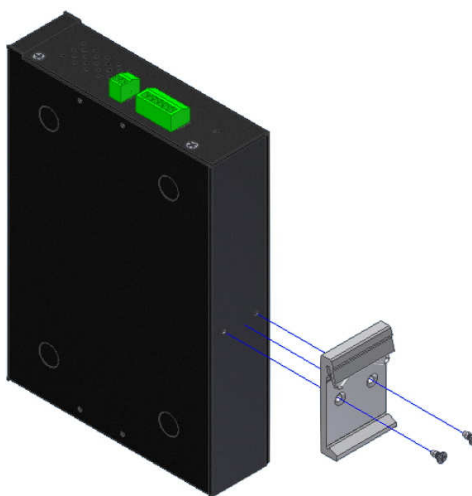

Figure 2-2
1. Install the DIN-Rail mounting plate to the NV-600LI/RI. (Figure 2-2)